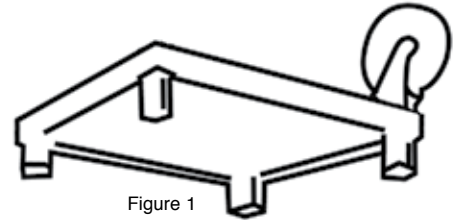

Figure 1
STEP 1: Place bottom shelf upside down (ribbed surface up) on a level and firm floor surface. Insert the stems of the 4 casters into the holes in the four caster posts. Tap casters into socket with rubber mallet* until fully seated. (FIGURE 1)